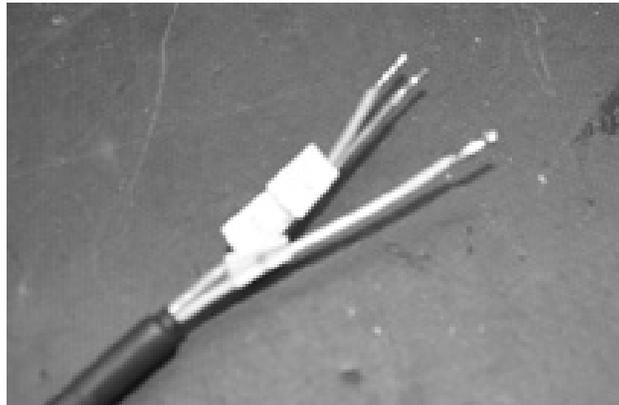

Figure 3. Tinned Wire Ends
4. Tin the end of the wires to prevent fraying as shown in Figure 3.